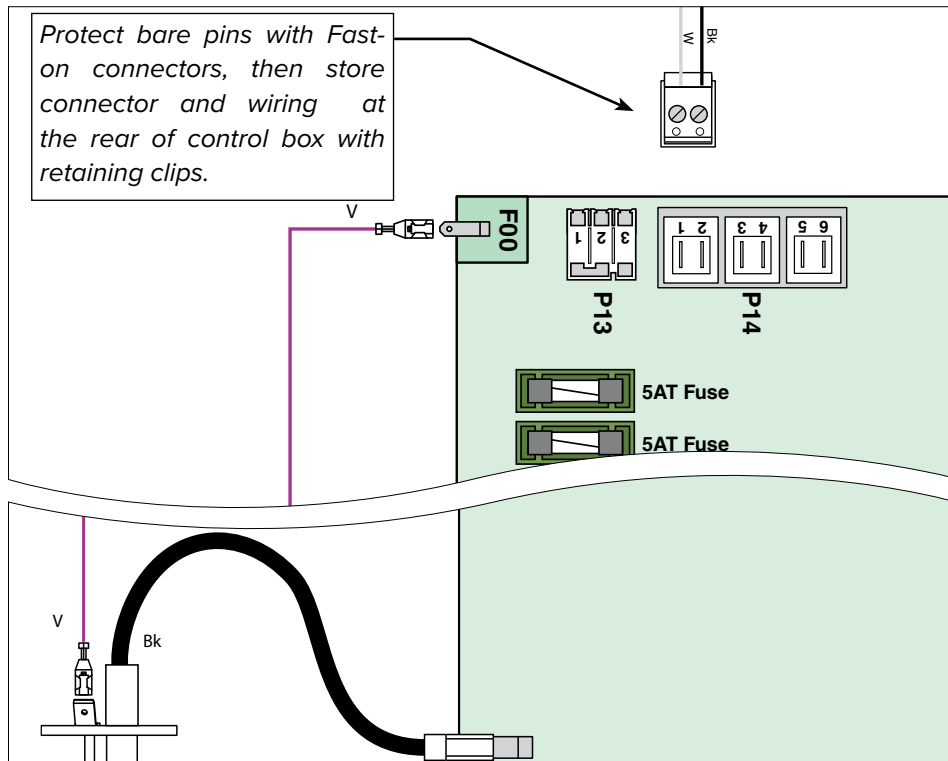

Fig. 17 - Control Module Wiring - Pre-modification
2. Disconnect violet wire (ionization current return) (See *Fig. 17*) from circuit board ground connection. Discard the wire.